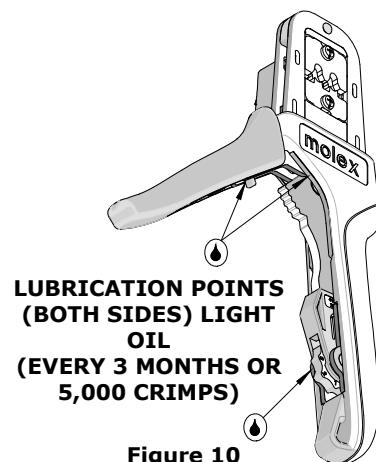

Figure 10
3. Make certain all pins, pivot points and bearing surfaces are protected with a thin coat of high-quality machine oil. Do not oil excessively. The tool was engineered for durability, but like any other equipment, it needs cleaning and lubrication for a maximum service life of trouble-free crimping. Light oil (such as 30-weight automotive oil) used at the oil points every 5,000 crimps or 3 months will significantly enhance the tool life. See Figure 10.